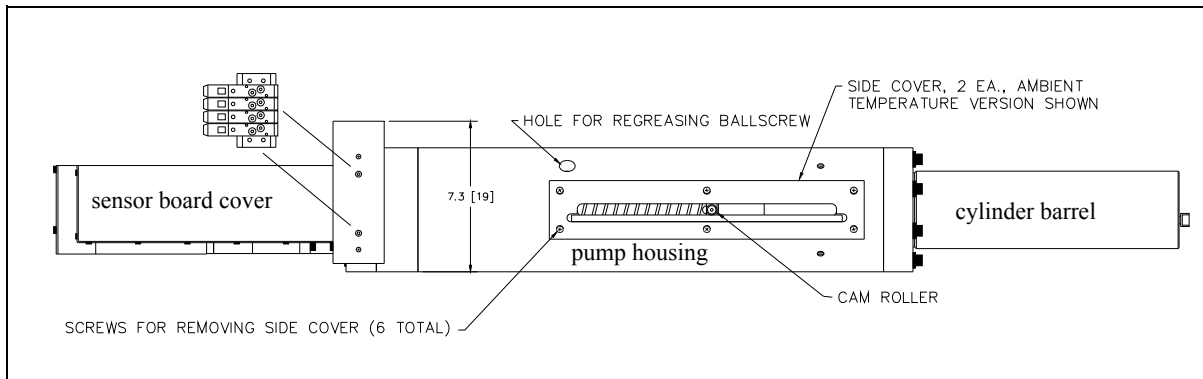
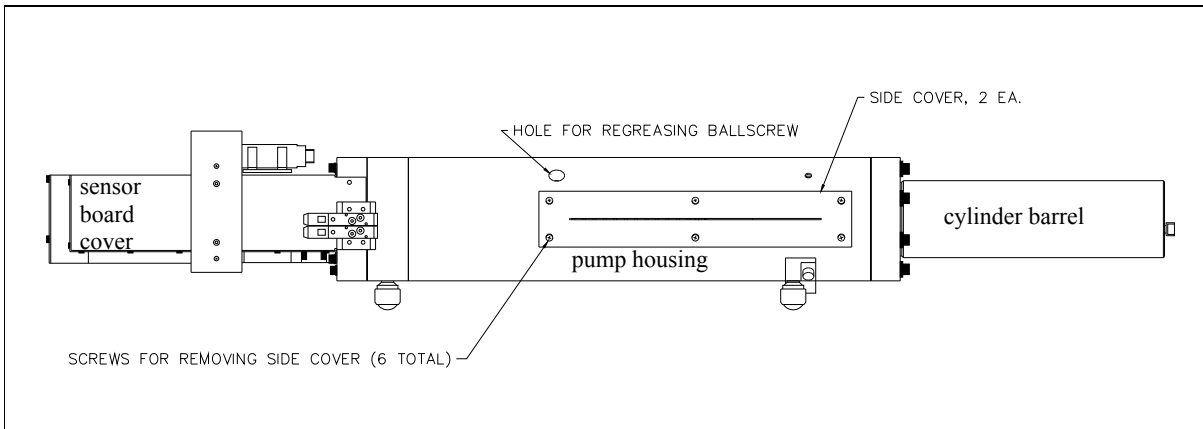

Figure 11-8 Pump Cylinder Side View, Ambient Temperature
Figure 11-9 Pump Cylinder Side View, High Temperature
1. Remove the cylinder housing side covers. To do this, remove the six (6) screws that attach the side covers to the cylinder housing. See Figure 11-8 and Figure 11-9.
On each side of the pump cylinder is a side cover. The ambient temperature pump's side covers are clear, acrylic panels through which the ball screw can be viewed. The high temperature pump's side covers are black anodized aluminum with a slot cut into them for viewing. Refer to Figure 11-8 for a view of the ambient temperature pump cylinder and Figure 11-9 for a view of the high temperature pump cylinder.
1. As shown in the Calibration Setup Diagram in Figure 11-8, connect a calibrated gauge (CG) to the fluid outlet of your Quizix Pump System. Be sure your fill valves are connected to a fill reservoir at atmospheric ("zero gauge") pressure.
1. As shown in the Calibration Setup Diagram in Figure 11-8, connect a calibrated pressure source (PS) to the fluid outlet of your Quizix Pump System. Be sure your fill valves are connected to a fill reservoir at atmospheric ("zero gauge") pressure.